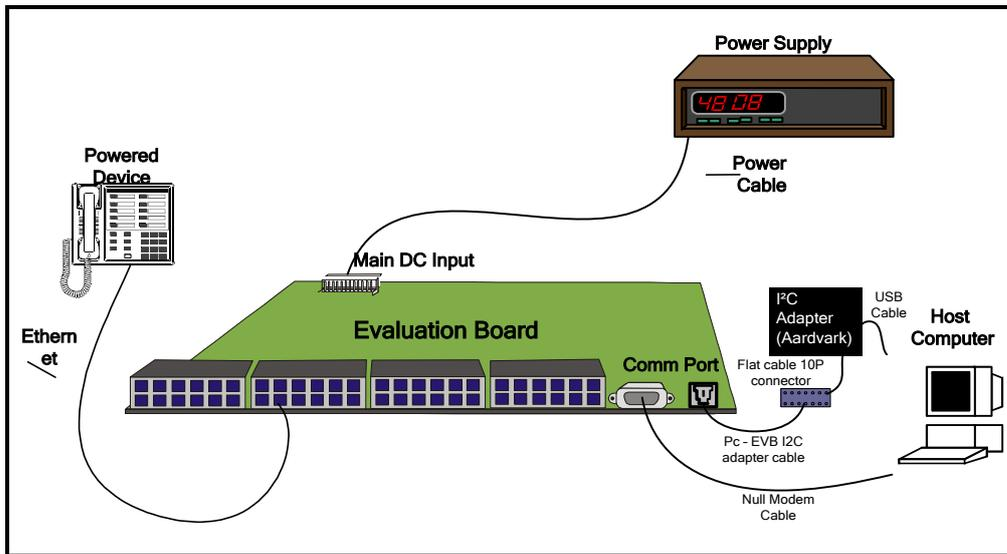

Figure 3-1: Hardware Setup
2. Interconnect equipment as shown in Figure 3-1.